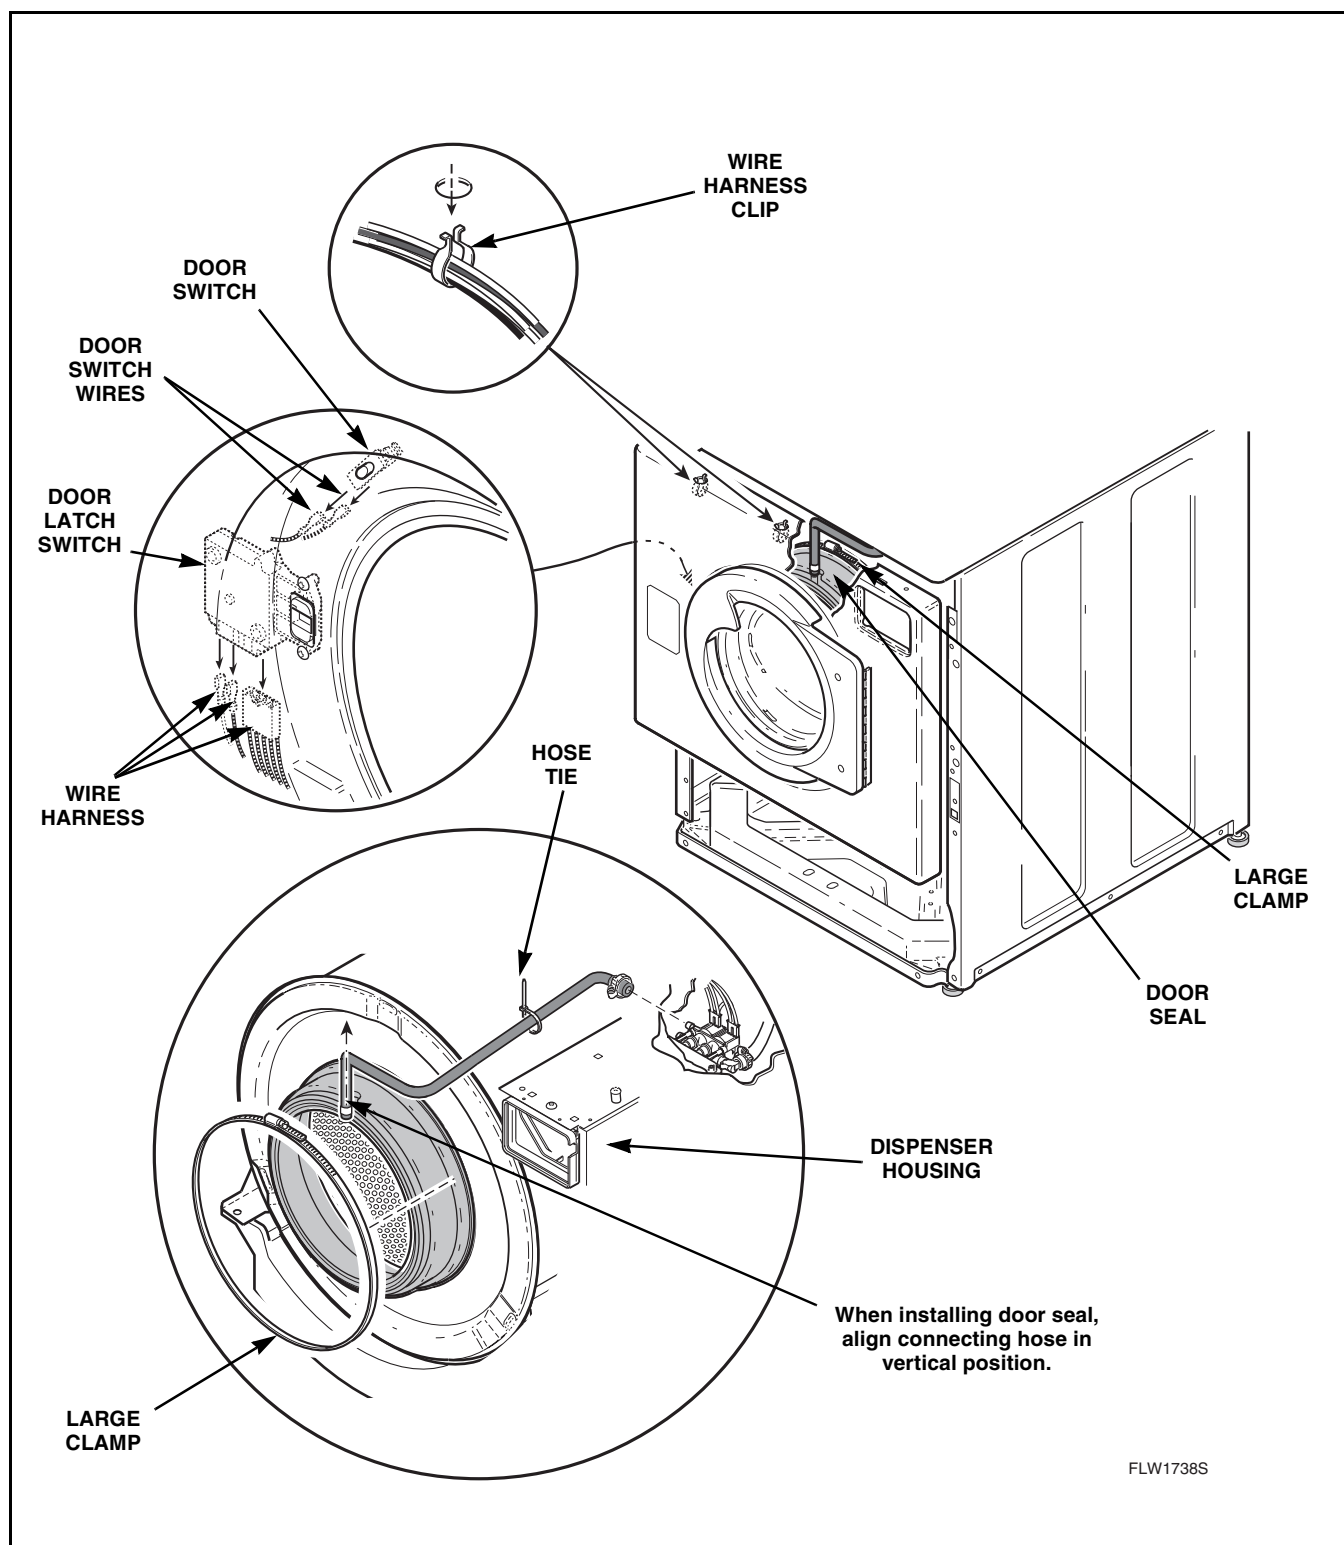

Figure 20
- k. Unplug wire harness from both the door latch switch and from the door switch. Refer to *Figure 20*. Remove clips holding wire harness and door seal hose along top flange of front panel and remove front panel.
NOTE: Door seal hose and wire harness must be reinstalled in the appropriate clips and holes along top flange of front panel. Refer to *Figure 20*.
- i. Unplug wire harness from both the door latch switch and from the door switch. Refer to *Figure 20*. Remove clips holding wire harness and door seal hose along top flange of front panel and remove front panel.
NOTE: The large wire clip holds both the wire harnesses and the door seal hose. Refer to *Figure 20*.
- k. Loosen hose clamp and remove dispenser valve-to-door seal hose connection at the dispenser. Refer to *Figure 20*.
IMPORTANT: When installing door seal hose, pull hose tie tight to prevent damage. Refer to *Figure 20*.
1. Loosen large clamp holding door seal to front of outer tub. Carefully pull seal off front lip of outer tub front panel and remove door seal and hose. Refer to *Figure 20*.
- f. Reach up between door seal and front panel. Refer to *Figure 20*. Press in on switch locking tabs and push switch out through front panel only far enough to allow removal of wires from switch terminals.
- f. While supporting door lock from the back (through door opening), remove two Phillips head screws holding door latch switch to front panel. Refer to *Figure 20*.
- g. Gently pull door lock out through door opening. Remove door lock only far enough to disconnect harness connector from door lock. Refer to *Figure 20*.